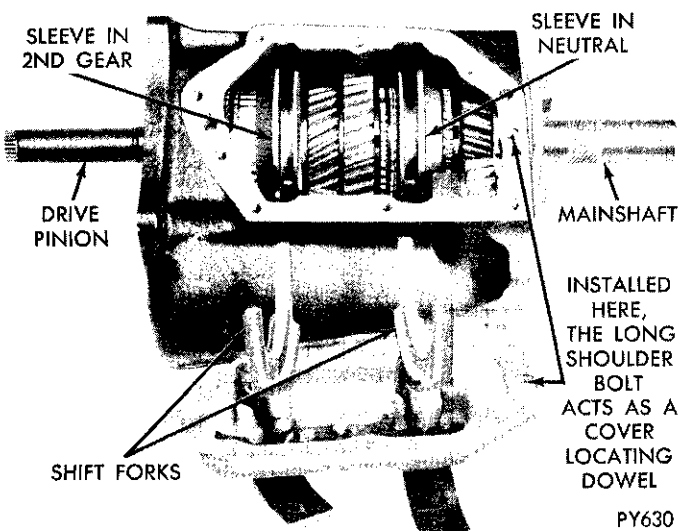

Fig. 4—A-230 With Shift Mechanism Assy., Pinion Bearing Retainer, and Extension Housing—Removed
- (1) Shift transmission to second gear for shift fork clearance.
- (2) Remove housing retaining bolts and lift shift mechanism from case (Fig. 4).
- (3) If shaft "O" ring seals need replacement, proceed as follows: Pull shift forks out of shafts.
- (4) Remove nuts attaching operating levers to the shafts. Disengage levers from flats on shafts and remove.
- (5) Remove burrs from shafts before removal from housing to avoid scoring the bores which would cause leakage after reassembly.
- (6) Push gearshift lever shafts through housing bores and remove.